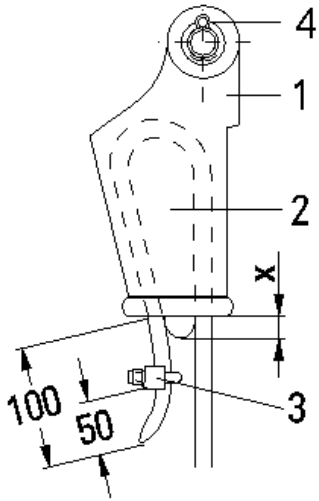

Figure 6-18
7. Place rope around rope wedge (2) and pull it into the tapered rope recess (1) until the loose end of the rope projects approx. 100mm.
8. Secure loose end of rope with rope clamp (3) approx. 50mm from the end of the rope. See Table 6-2 for torque specification.
9. Verify the maximum projection of the rope wedge "x" dimension. (See Figure 6-18 and Table 6-2).